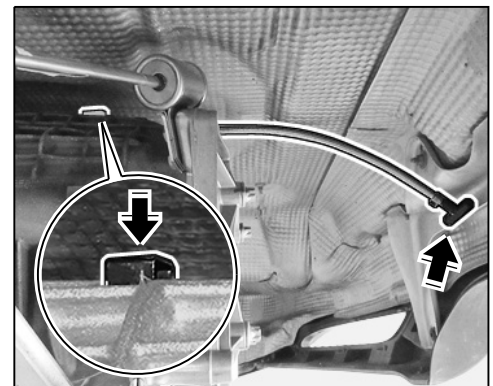

Figure 35
- 6.6 Fit fixing clip ⇒ *Figure 35-arrow-* in the pocket before the third cross strut on the transmission.